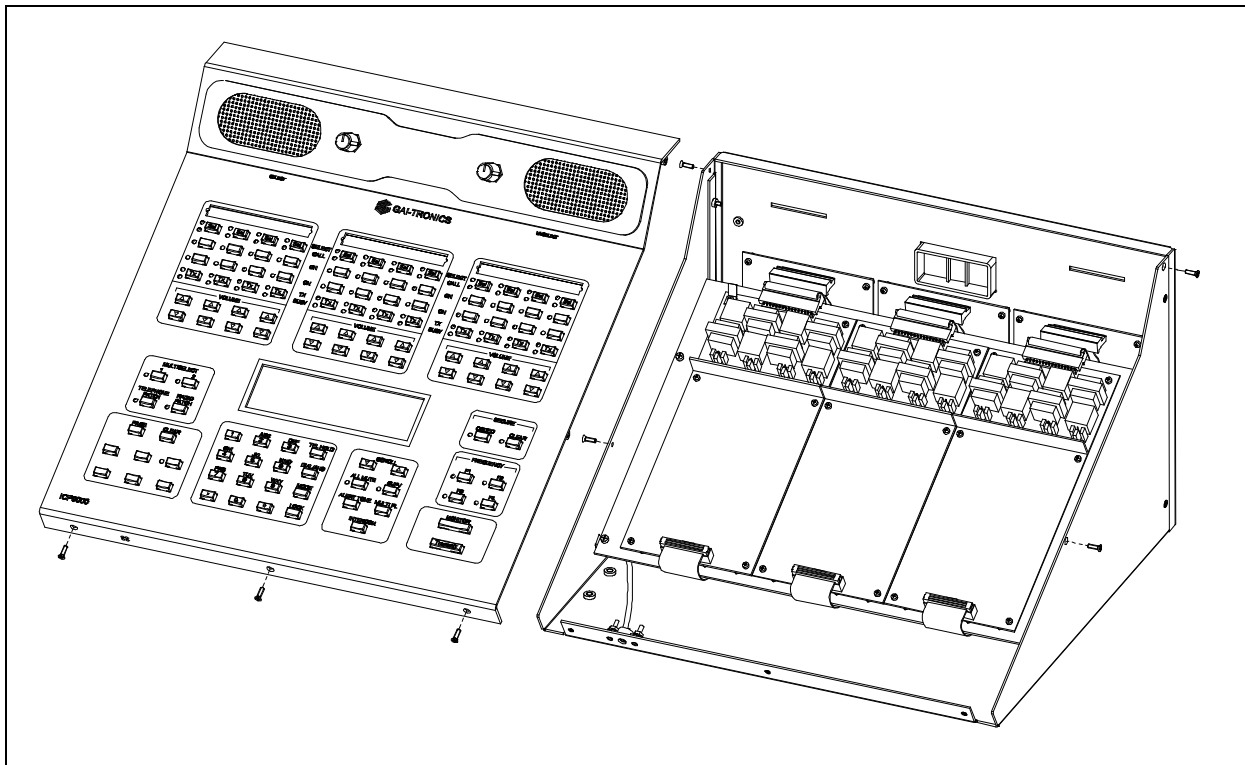

Figure 1.
2. Remove the seven screws securing the top panel and gently lift the cover to expose the attached speaker cable and master display cables. See Figure 1.